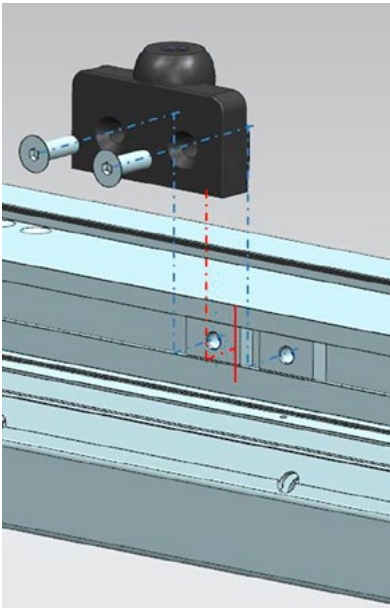

Figure 10: Connecting the mounting blocks to the panel.
1. The lower mounting blocks are to be secured using the supplied T-nuts. Insert the T-nuts into the sockets in the Left and Right module, and shift them to their correct positions. Into each mounting block installed on the ceiling, insert two T-nuts, see Figure 10. The intended positions are indicated on installation drawings. Using the tape measure and marker pen, indicate the positions of the mounting blocks on the panel according to the installation drawings.